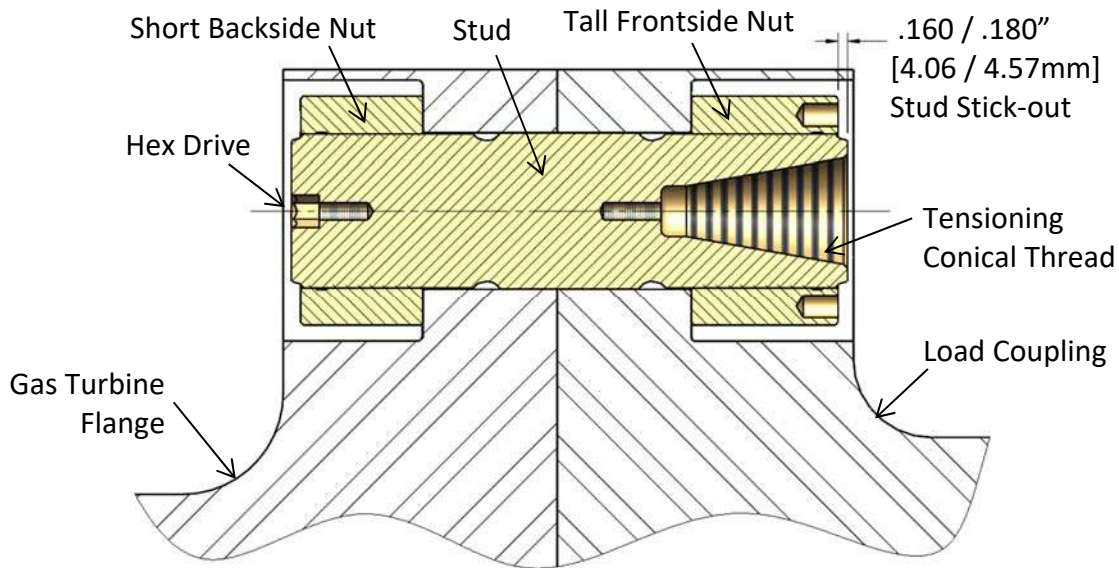

Figure 6A – Cross-section View of Gas Turbine to Load Coupling Bolted Flange Connection
4. Slide the stud and nut assembly into the flange as shown in Figure 6A and 6B.